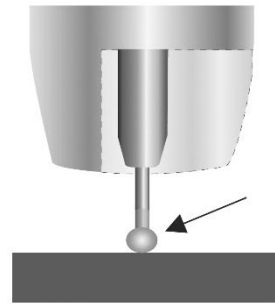

Fig. 14
2. The wire cannot support all the current flow; resistance builds up and the wire becomes hot and weak and begins to melt (Fig. 14)